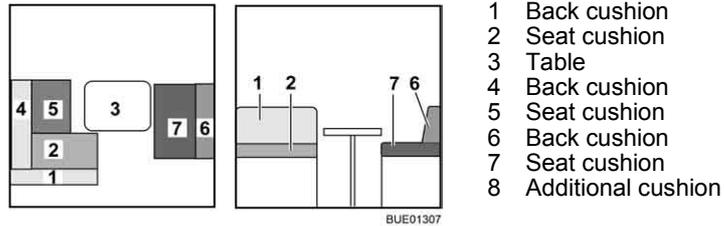

Fig. 140 Prior to conversion
- Convert the table (Fig. 140,3) to a bed foundation (see section 6.11).
- Remove the back cushions (Fig. 140,1 and 4) and lay them aside.